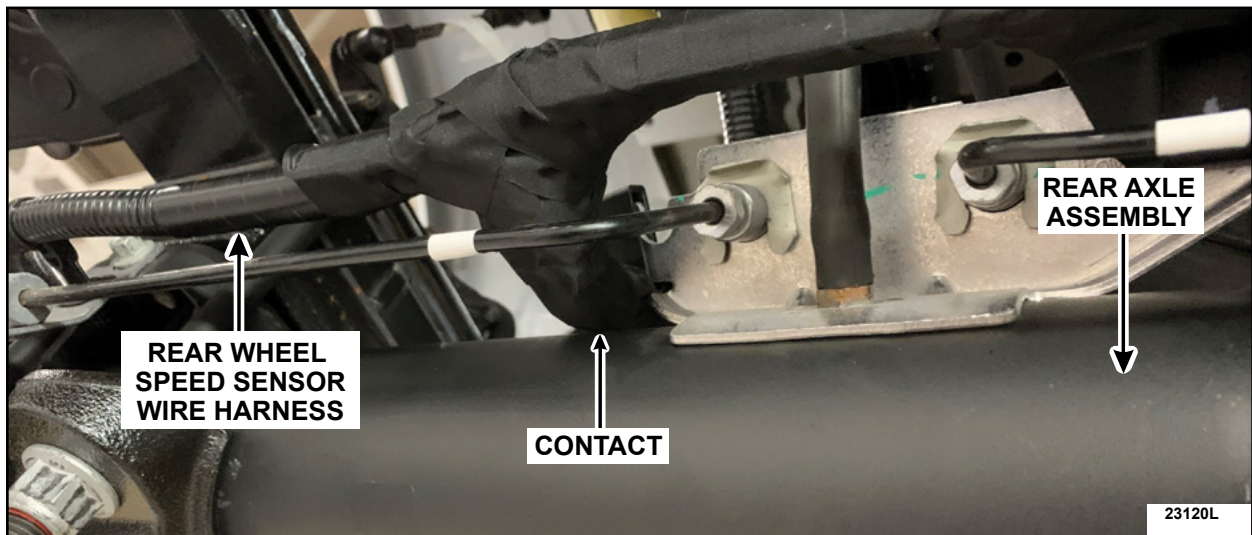

FIGURE 1
1. Use a clean wet shop rag and clean the wire harness contact location and the full circumference of the wire harness. It needs to be clean to allow for the tape being applied in this repair to properly adhere to the wire harness. See Figure 1.